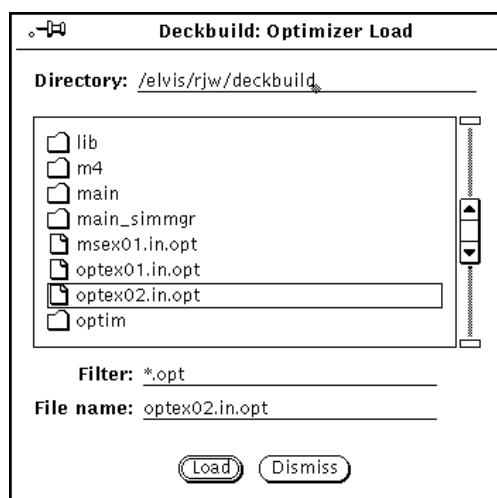

Figure 6-28: Optimizer Load Popup
1. Choose **File→Load File...** on the **Optimizer** window and the Optimizer Load Popup shown in Figure 6-28 will appear.